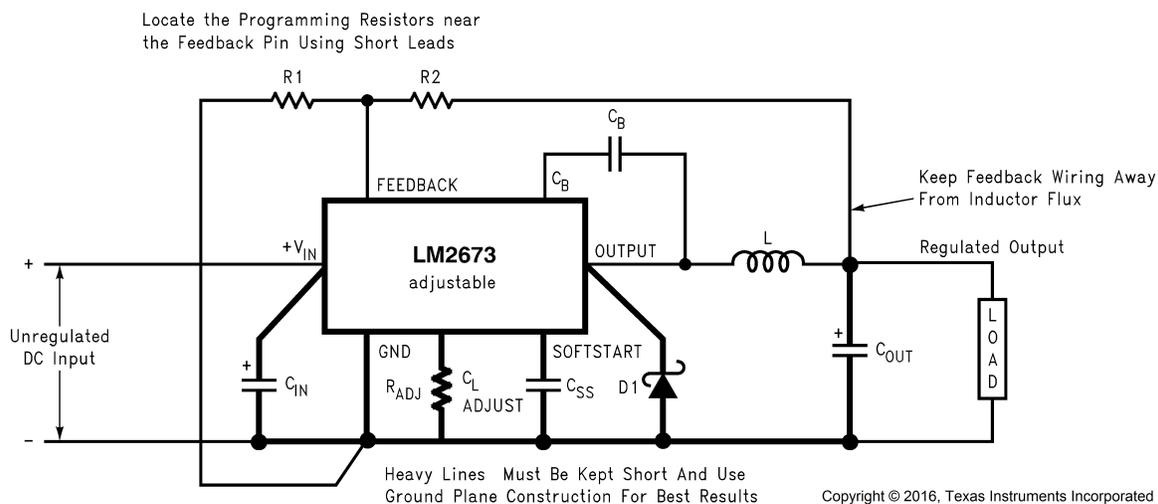

Figure 19. Basic Circuit for Adjustable Output Voltage Applications
Step 2: Select an LM2673S-ADJ. To set the output voltage to 14.9 V, two resistors need to be chosen (R1 and R2 in Figure 19). For the adjustable device the output voltage is set by the following relationship: